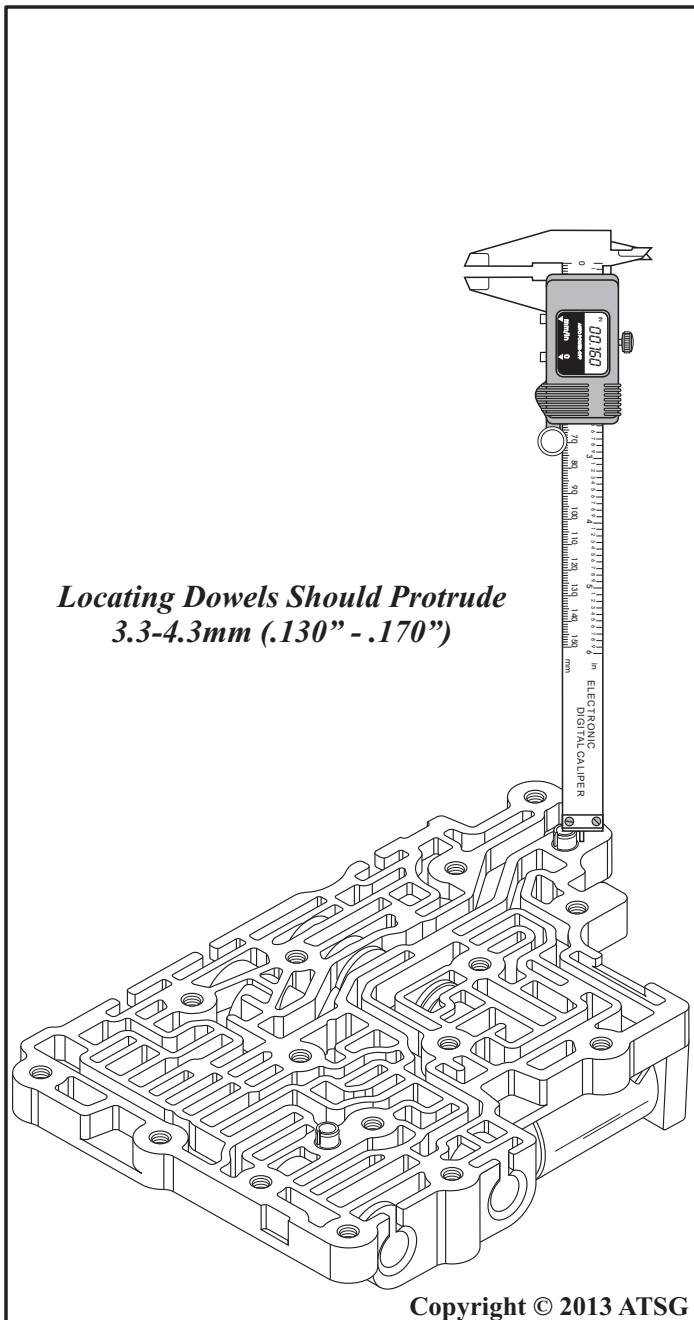

Figure 178
25. Check the height of all hollow locating dowels, as shown in Figure 178.